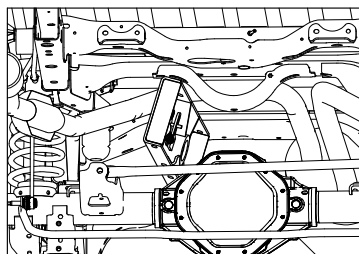
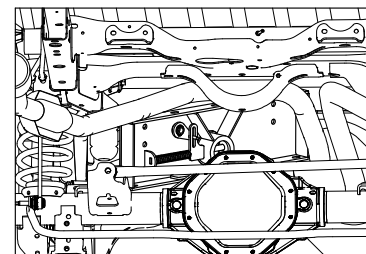

Figure C1: View under bed looking from rear towards the axle
Figure C2: View under bed looking from rear towards the axle
1. **Position the center section.** Position the center section so that the 4" diameter raised area of the center fits into the 4" diameter hole in the truck bed while the 3/8" square hole is centered under the 3/4" diameter hole in the truck bed. When installed the round receiver will be almost directly above the axle of the pickup. If the pickup is equipped with dual exhaust the installation is more difficult. From behind the rear axle and with the bottom side of the center facing the passenger side of the truck, send the end of the center without the spring over the axle first, see Figure C1. Send the lead end of the center toward the front of the truck and to the passenger side far enough so the end of the center toward the rear of the truck will clear the exhaust, see Figure C2.